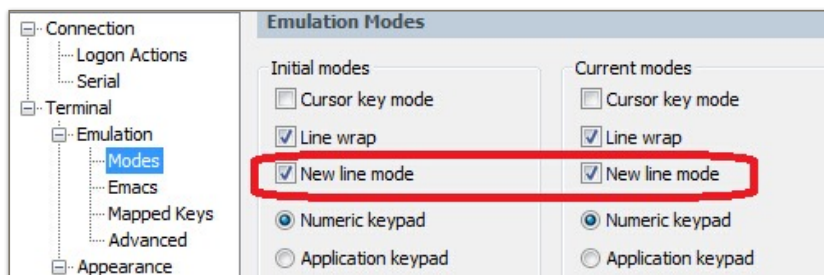

Figure 2-2. New Line Mode
- AT commands have to be capitalized, and must end with /r/n, as Figure 2-2 shows.